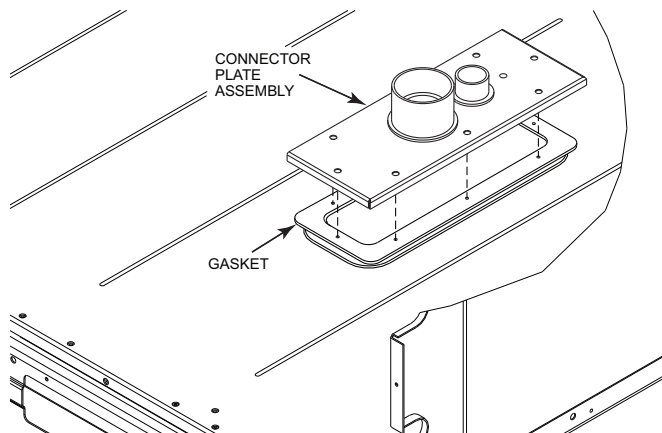

Fig. 42 — Completing Installation of Thru-the-Base Option
3. Place the gasket over the embossed area in the basepan, aligning the holes in the gasket to the holes in the basepan. See Fig. 42.